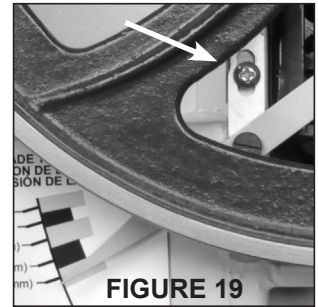

FIGURE 19
1. With desired tension on the blade, loosen the adjusting Screw (#13A) with a Phillips screwdriver. Fig. 19.